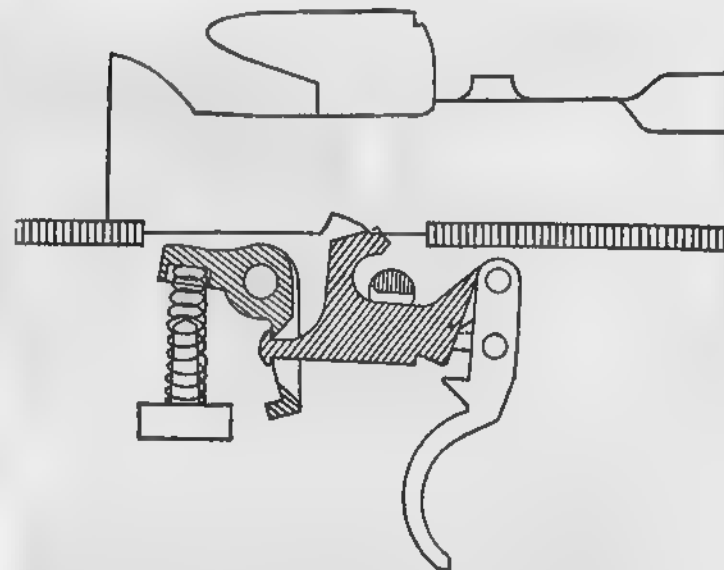

Fig 28.—The trigger pressed with the change lever at "R"
3. **Single rounds.**—When the change lever is at "R" (see Fig 28):—